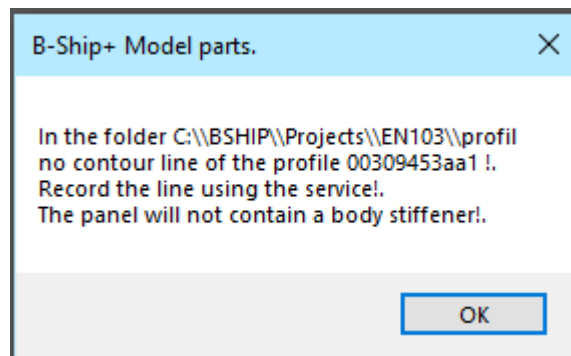

Figure 116
**Warning:** In the materials classifier for the panel with stiffeners, it is necessary to set the material for the stiffeners and the cross-section line, otherwise, when selecting the list **Create** a line **Model part** pops up the window shown in Figure 116.